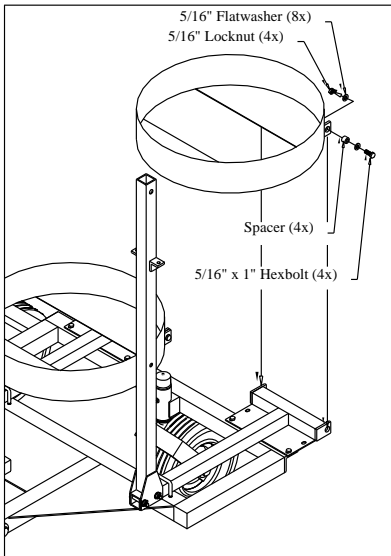

Fig. 4
4. Set container holder (11) onto "T" side of FD-frame (2) and align holes. Slip Bushings (25) through the mount holes of both the container holder (11) and the FD-frame (2) and secure with 5/16" x 1" bolt, 5/16" flatwashers and a 5/16" locknut. Tighten bolts until the holder will support container in a tilted position. See Fig. 4